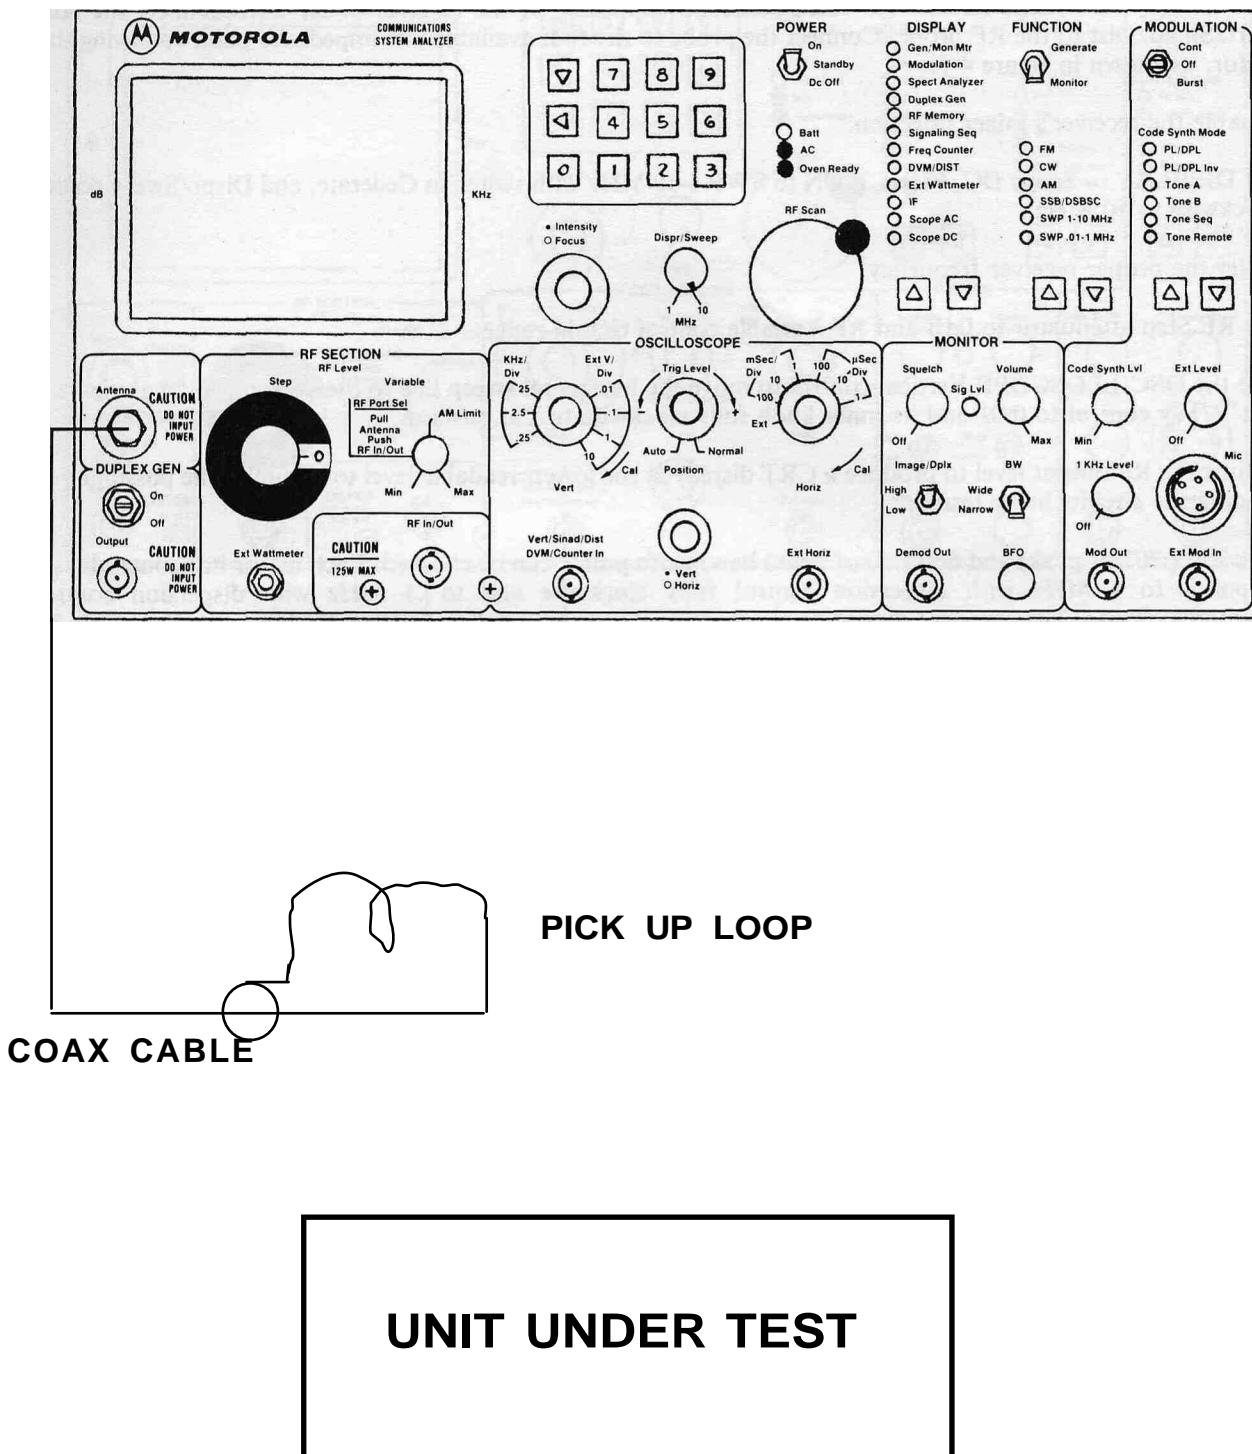

FIGURE 4-6. FREQUENCY ADJUSTMENT SETUP
1. Connect the Analyzer to the receiver under test, as shown in figure 4-6.